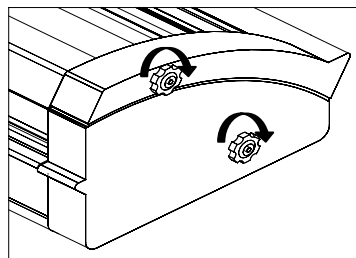

Figure 5
**Film Tension Adjustment (6)** - Allows the operator to increase or decrease film web tension. To increase the tension turn the knob clockwise and to decrease tension turn the knob counterclockwise. (Fig. 5)